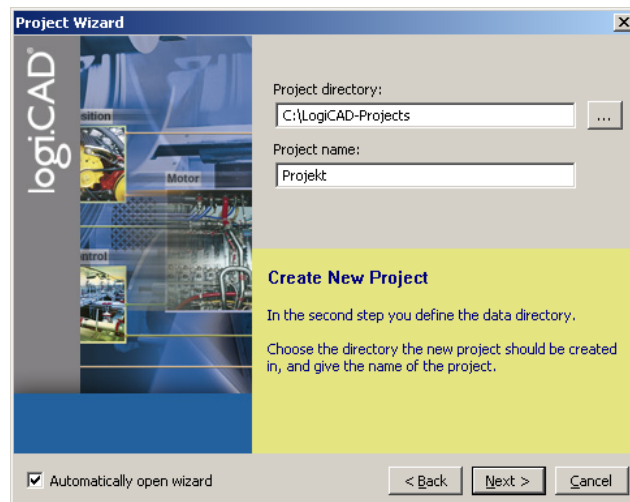

Figure 69: Project name and path
5. Specify the name of the project and the path where to store the project files, see Figure 69.